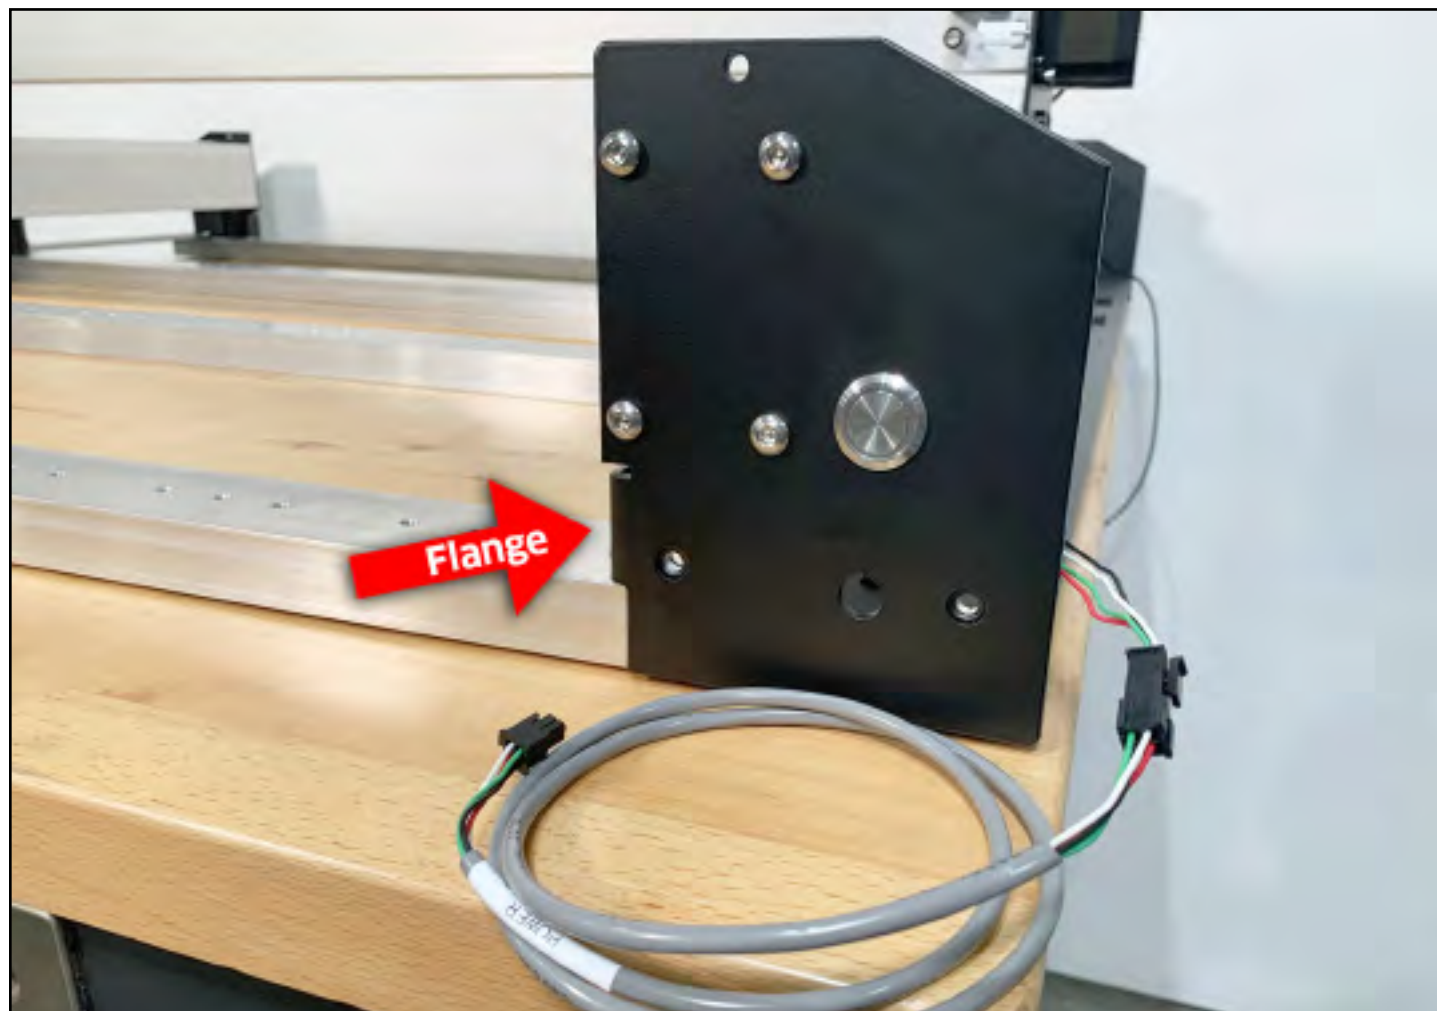

Figure 4-2
1. Connect the 4-pin male-to-female power extension cable to 4-pin male connector exiting the back of the front-right endplate. See **Figs. 4-2** and **4-3**.